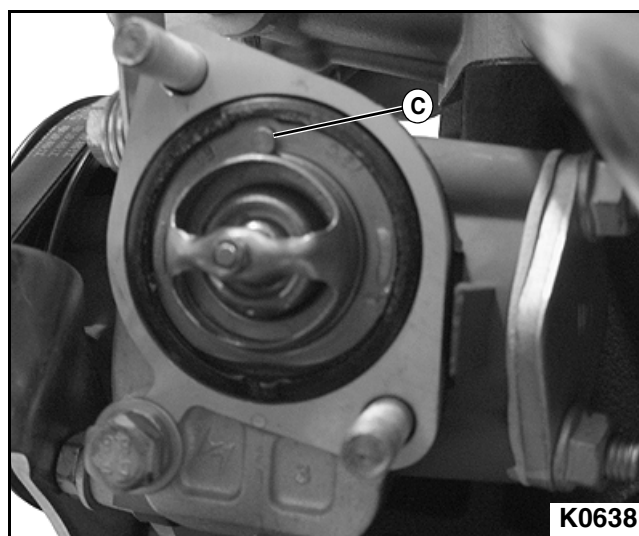

Figure 3-10
Take notice of thermostat air bleed (C) orientation. Air bleed hole must be positioned at approximately the ten to eleven o'clock position. **See Figure 3-10.**